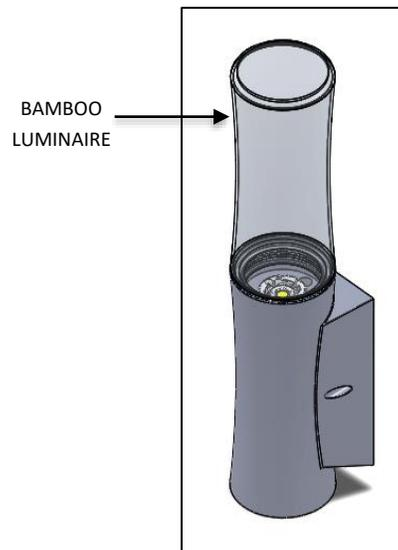

FIG.3 BAMBOO LUMINAIRE (PRE-ASSEMBLED)
1. BAMBOO LUMINAIRE (Pre-assembled as shown in FIG. 3)